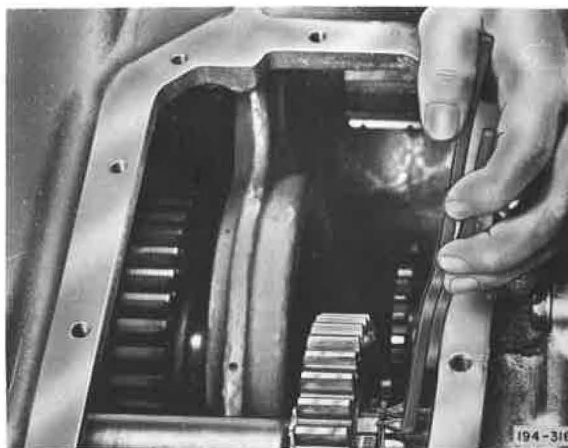

Figure 5-129. Removing Rear Countershaft P. T. O. Gear Front Snap Ring
8. Remove countershaft rear bearing cover capscrews and covers. Remove power-take-off cover capscrews and covers. Through power-take-off cover openings, remove the lower and right-hand rear countershaft power-take-off gear, or oil slinger when incorporated instead of power-take-off gear, front snap rings. See Figure 5-129.